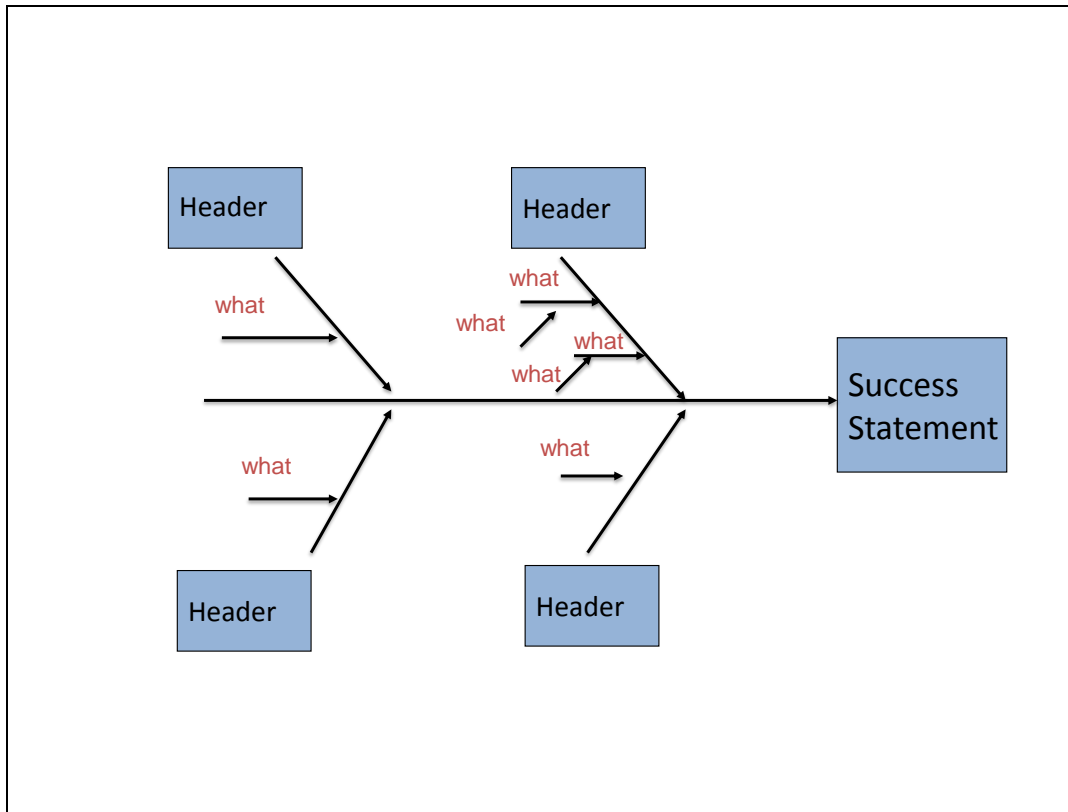

Figure 1: Success and Effect Diagram Template
1. As shown in Figure 1, write the success as a symptom statement on the right hand side of the page and draw a box around it with an arrow running to it. This success is now the effect to analyze.